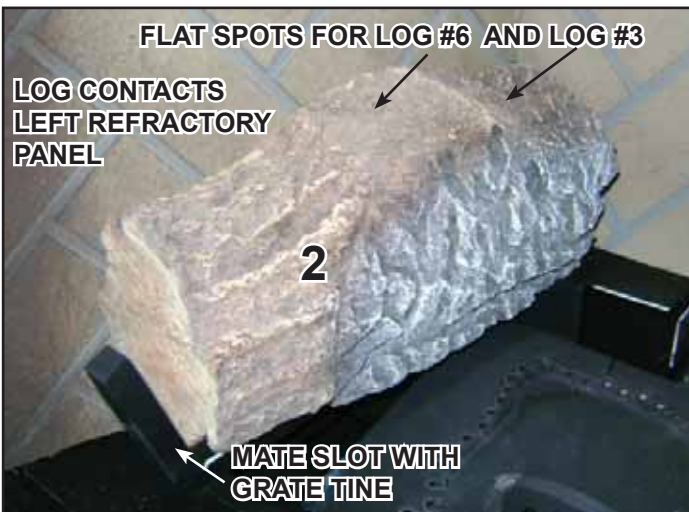
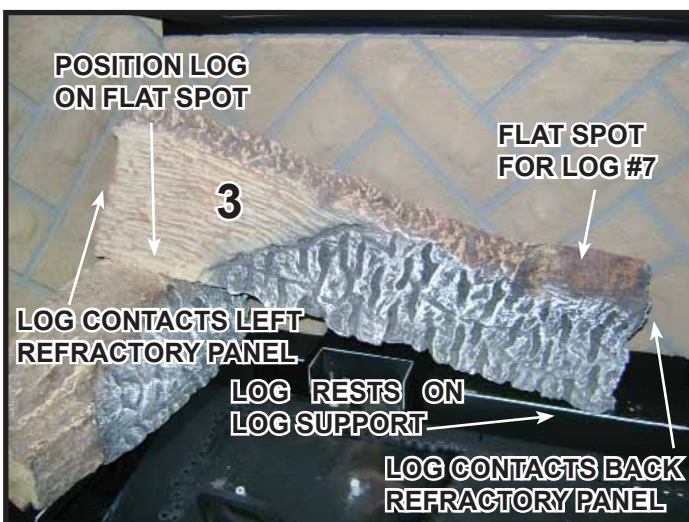

Figure 7. Place Log #2
Figure 9. Place Log #3
**Log #2 (SRV2225-703):** Mate the grate tine with the slot on the bottom of Log #2. The back end of the log rests on the log support. The side of the log will contact the left refractory as shown in Figure 7.
**Log #3 (SRV2225-702):** Position the left end of the log on the flat spot of Log #2 as shown in Figure 7 and Figure 9. The right end of the log rests on the log support and touches the back refractory. The left end of the log should contact the left refractory panel.
**Log #7 SRV2225-704):** Note the location of the groove on the underside of the log. Place the opposite end on the flat spot on Log #3. See Figure 9. Mate the groove on the underside of the log with the grate bar as shown in Figure 15, centered between the andirons.